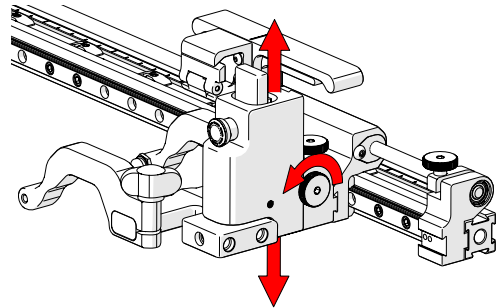

Fig. 35 - Vertical adjustment
2. The vertical adjustment knob (Fig. 35) allows the heavy duty vertical probe holder's height adjustment. This adjustment also controls the probe holder's spring tension.